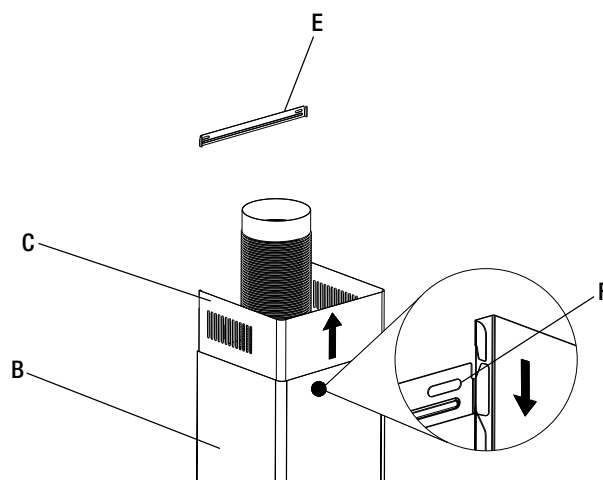

Fig. 10
- Place the upper chimney (C) inside the lower chimney (B) and place them both onto the range hood. Hang the lower chimney (B) on the lower support bracket (F) as shown in figure 10.